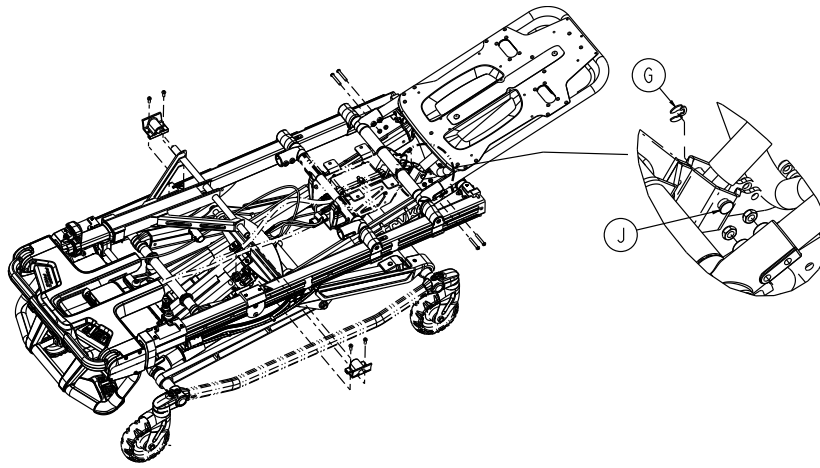

Figure 14 – Remove the truarc ring and Fowler cylinder pin
- c. Using a small slotted screwdriver, remove the truarc ring (G) and Fowler cylinder pin (J) that secure the bottom of the gas cylinder to the mount (Figure 14). Save the truarc ring and Fowler cylinder pin.